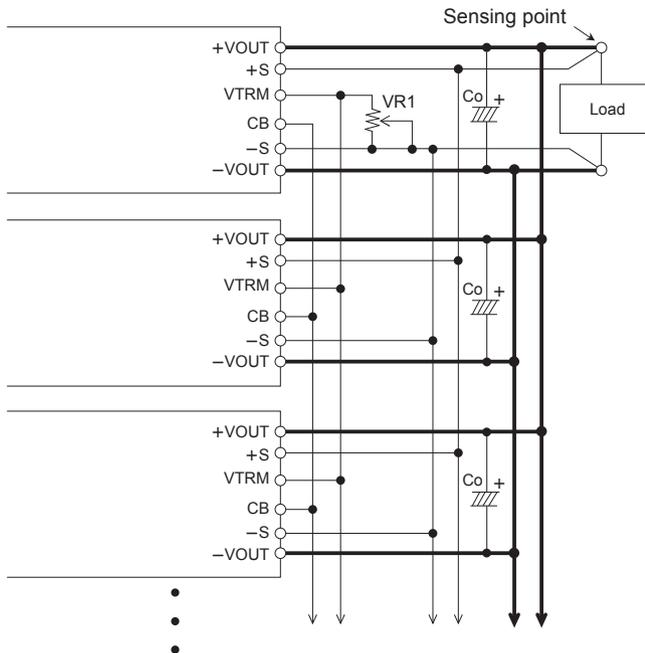

Fig.4.2 Examples of parallel operation
■ Parallel operation is available by connecting the units as shown in Fig.4.2. With this wiring, it is possible to adjust all output in module by single potentiometer. When output voltage adjustment is not in use, VTRM wiring, VR1 are not necessary.